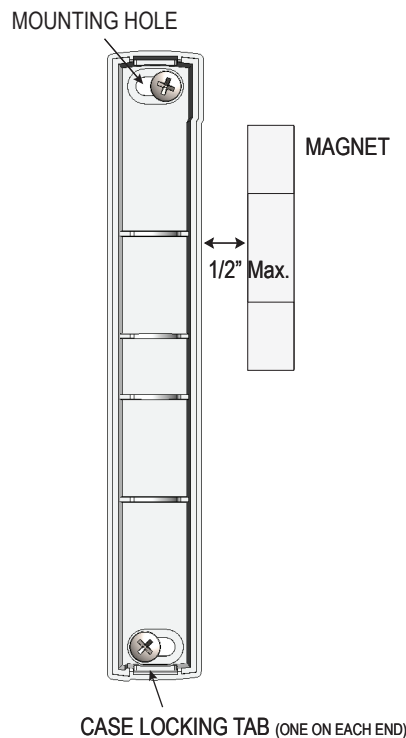

Figure 1: Mounting Base
3. Mount the sensor base to the door or window frame. Use included screws to affix the mounting base, observing alignment marks shown in Fig 1.